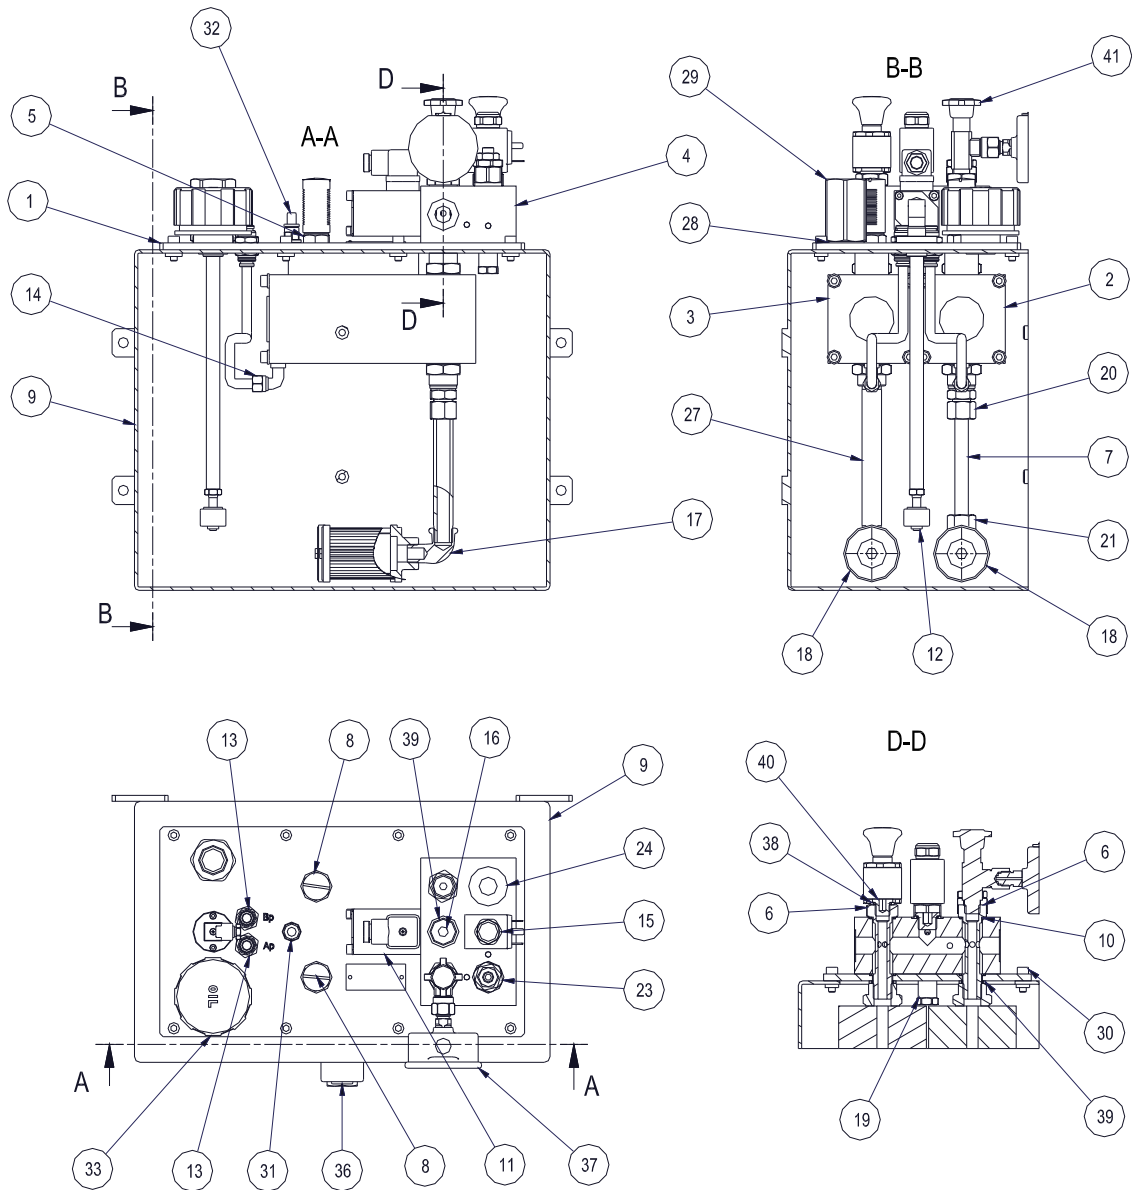

fig.5
Figure 5 shows a section plane of code 5-1698-\*-0 control unit, in which all components of the same are numbered. The spare part list also indicates the quantities for each item which are required to complete a given device. Please refer to the following page for the list in question.
**Spare part list for code 5-1698-\*-0 control unit (see section plane in figure 5)**